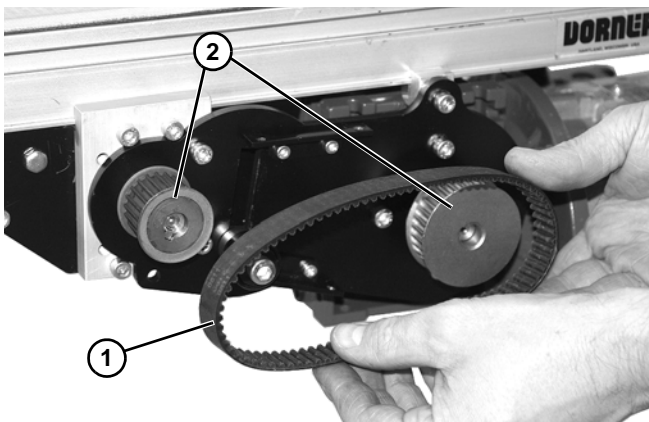

Figure 6
7. Install belt (**Figure 6, item 1**) and both pulleys (**Figure 6, item 2**).